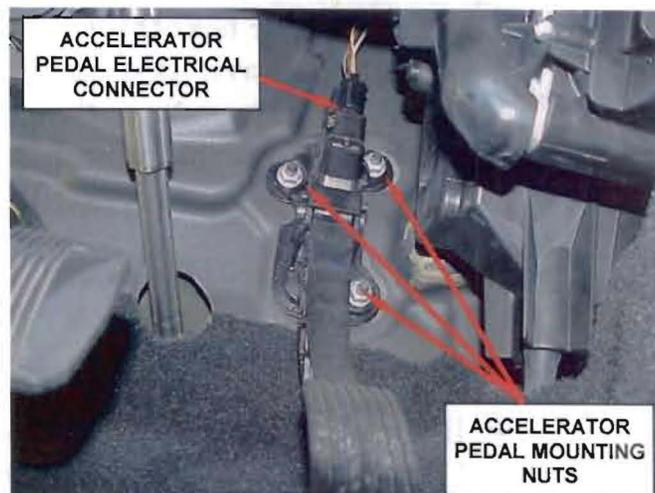

Figure 1 – Mounting Nuts
2. Remove the three accelerator pedal mounting nuts (Figure 1).